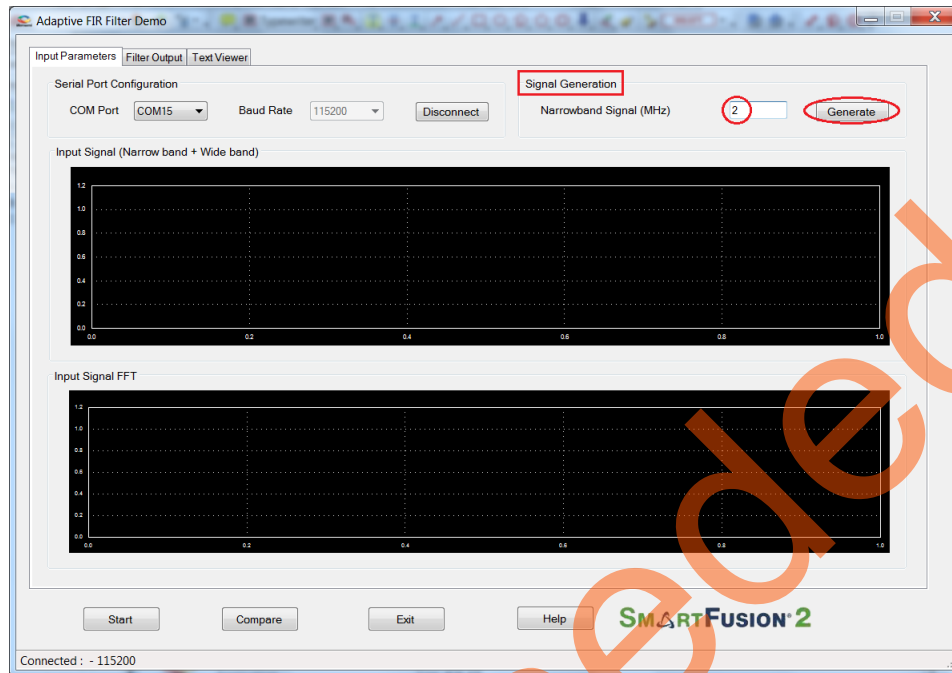

Figure 17 • Signal Generation
3. **Signal Generation:** Enter the narrowband signal frequency as 2 MHz (supported range is 1 MHz to 20 MHz) and click **Generate**. Refer to Figure 17.